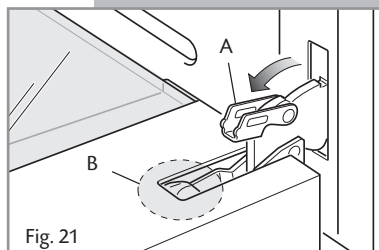
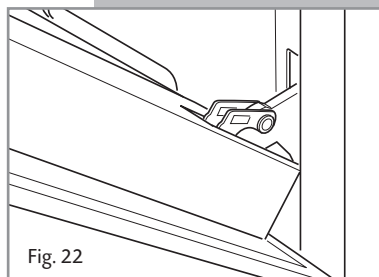

Fig. 21
Fig. 22
- Fully open the lever **A** on the left and right hinges (Fig 21).
- Gently close the door (Fig. 22) until the left and right hinges are hooked to part **B** of the door (Fig. 21).
1. Make sure the door is locked open (see fig. 22).